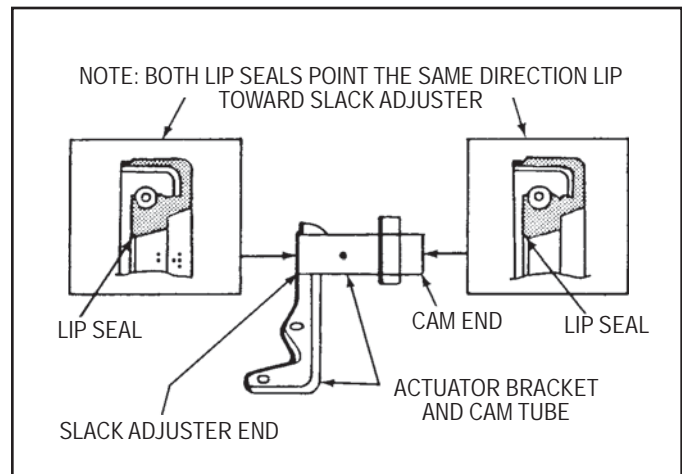

FIGURE 9 - SEAL INSTALLATION
**CAUTION:** The lip of the grease seals must be installed correctly to prevent possible damage. The lip of the seal that is installed in the cam end must enter the opening first. The lip of the seal that is installed in the opposite end of the cam tube must enter last (See Figure 9).